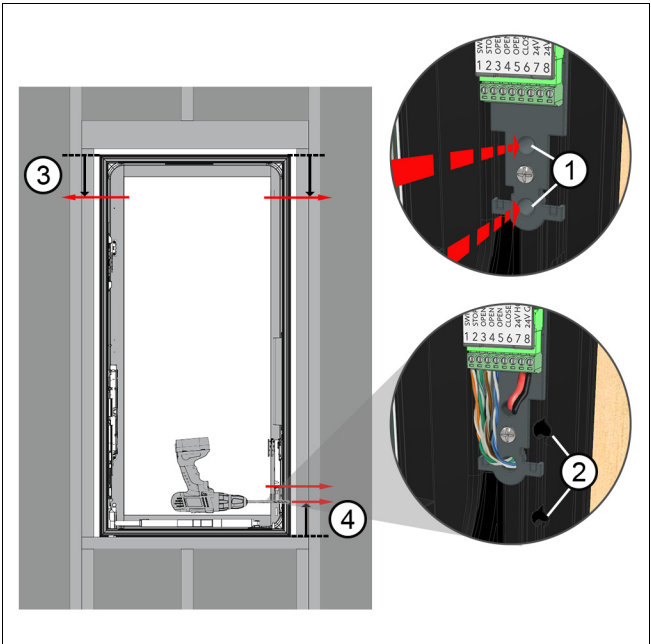
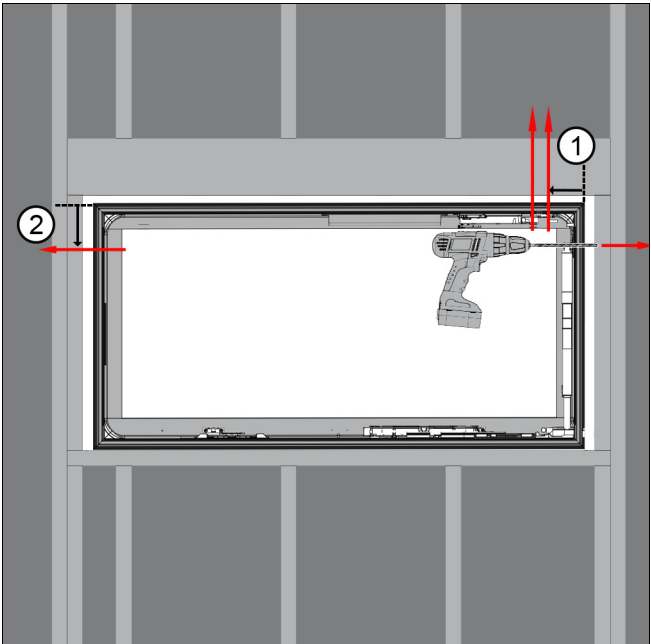

Figure 1 Casement: red arrows denote factory installation holes.
Figure 2 Awning: red arrows denote factory installation holes.
1. Pull all necessary wire into the window frame. Power wire needs to support 1 Amp of 24Vdc (16 or 18ga. wire is recommended.) Figure 1 and Figure 2 show the location of the pre-drilled holes in the window frame to run power to the control board. Choose one of the locations, then drill a 1/4" hole through the rough opening. The drill bit will fit through the pre-drilled frame hole and then may need to penetrate plastic shims, this is normal. When running the wires, use wiring methods that are compliant with all local, applicable codes and practices. See Figure 1
If one of the holes shown in location 3 on Figure 1 is used, ensure wire jacketing is not punctured or torn when pulling through the frame. If necessary, use small wire tie downs to ensure the wire runs along the frame and will not interfere with the interior covers when installed. See Figure 1 and in Modern Installation Instructions.
2. If desired, wire can be run to connect the dry contact terminals to a 3rd-party switch of other control mechanism. Use the pre-drilled hole locations shown in Figures 1 and 2 to run the wire. Cat5 or Cat6 wire is suggested for dry contact wiring. .